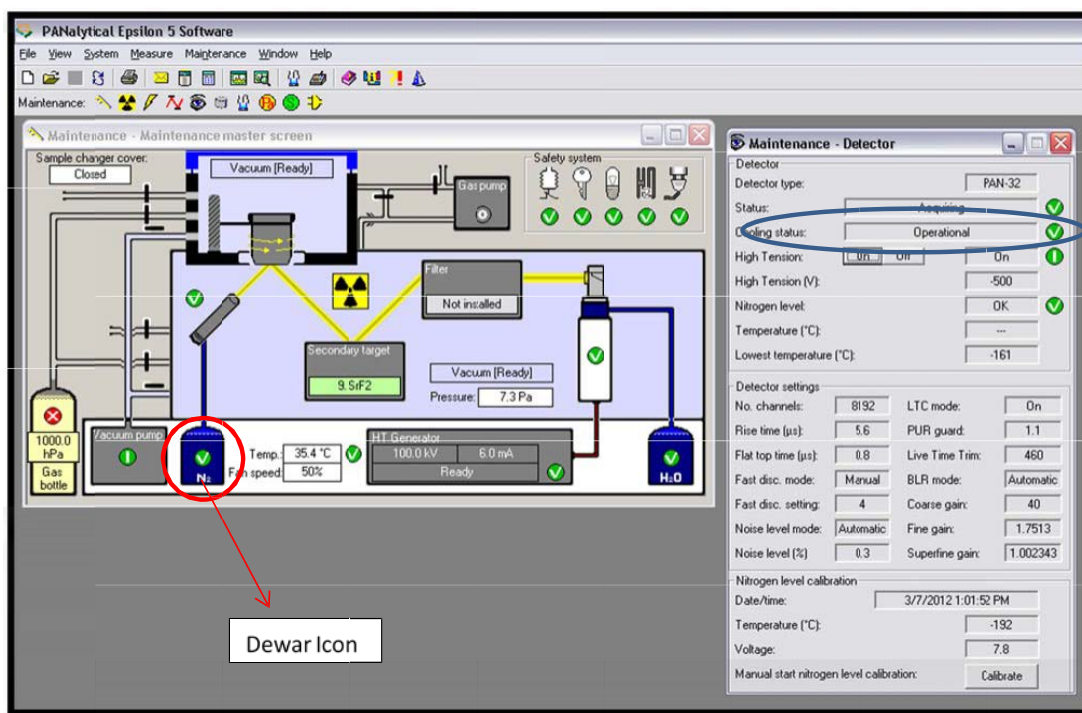

Figure 1: Maintenance Master Screen and Detector Maintenance window.
1. The E5 has several potential values for “Cooling status” that are displayed on the Maintenance screen (Figure 1, circled in blue). The statuses include Pre-Operational, Operational, Long Grace, Short Grace, Filling Allowed, Cooling, and Forced Heat-Up. Ensure that the detector state is not in Forced Heat-Up
prior to filling the dewar with LN2. Check this by clicking on the picture of the LN2 dewar (Figure 1, circled in red). Refer to section 9.4 Detector states for additional information.
The different detector cooling statuses which may be encountered by the user of Epsilon 5 during operation, are briefly described. The user software displays the cooling status in the detector maintenance window, see figure 1.